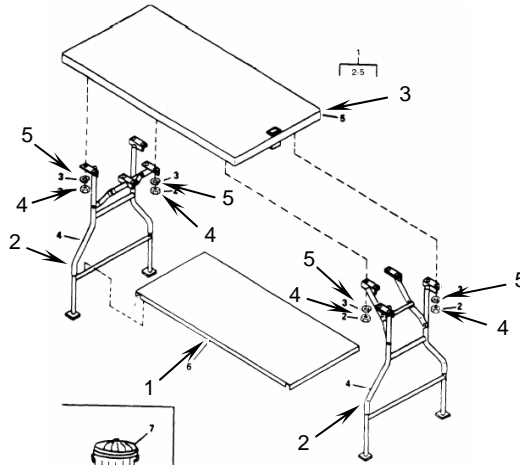

Figure 1. Repairing FSC-90 Work Table.
1. Remove the table shelf (**Figure 1, Item 1**).
2. Remove the table leg (**Figure 1, Item 2**) from the table top (**Figure 1, Item 3**) as follows:
- a. Remove eight nuts (**Figure 1, Item 4**) and lock washers (**Figure 1, Item 5**).
- b. Remove table leg (**Figure 1, Item 2**) off table top (**Figure 1, Item 3**).
4. Install the table leg (**Figure 1, Item 2**) as follows:
- a. Position the table leg (**Figure 1, Item 2**) over the studs on the underside of the table top (**Figure 1, Item 3**).
- b. Secure the legs to the table top using the eight lock washers (**Figure 1, Item 5**) and nuts (**Figure 1, Item 4**) and tighten.